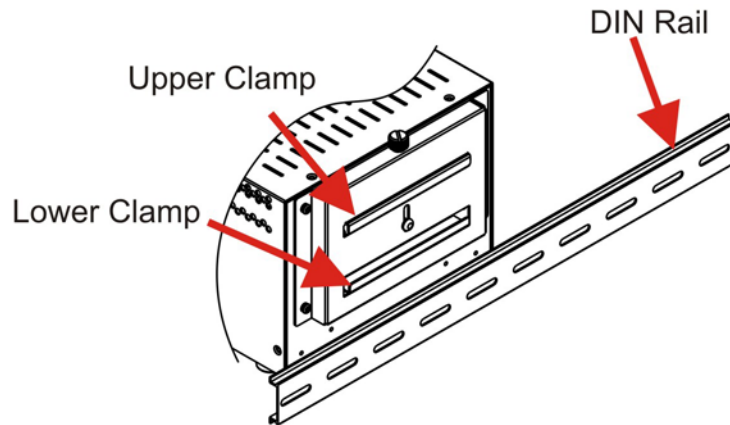

Figure 4-16: Mounting the DIN RAIL
Step 3: Place the DIN rail flush against the back of the mounting bracket making sure the edges of the rail are between the upper and lower clamps (**Figure 4-16**).